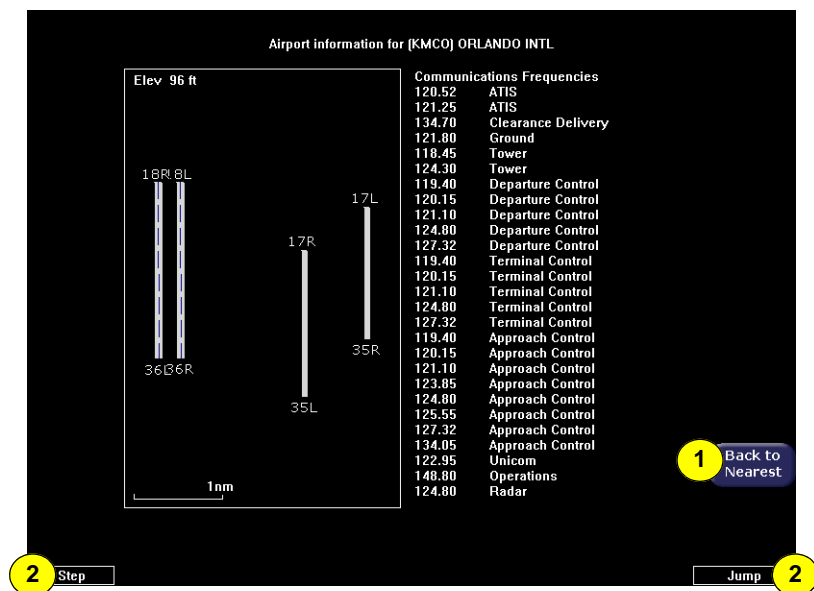

Figure 7.2 Airport Information Page
- 3) **Airport Info**—Provides quick access to airport information for the airport highlighted. *Airport Info* only appears when viewing the Airports Nearest to Position and Airports Nearest to Destination. Airport Info displays a page similar to Figure 7.2.